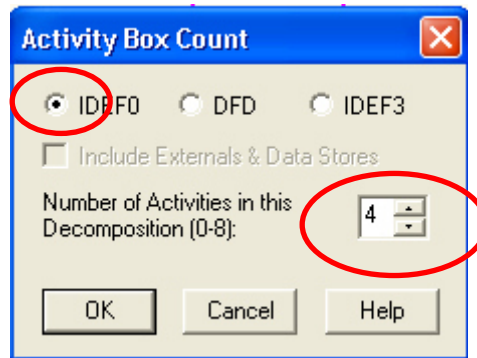

Fig. 2.1. A block decomposition dialogue box
3. Indicate the type of the diagram IDEF0 (fig. 2.1) and click OK.